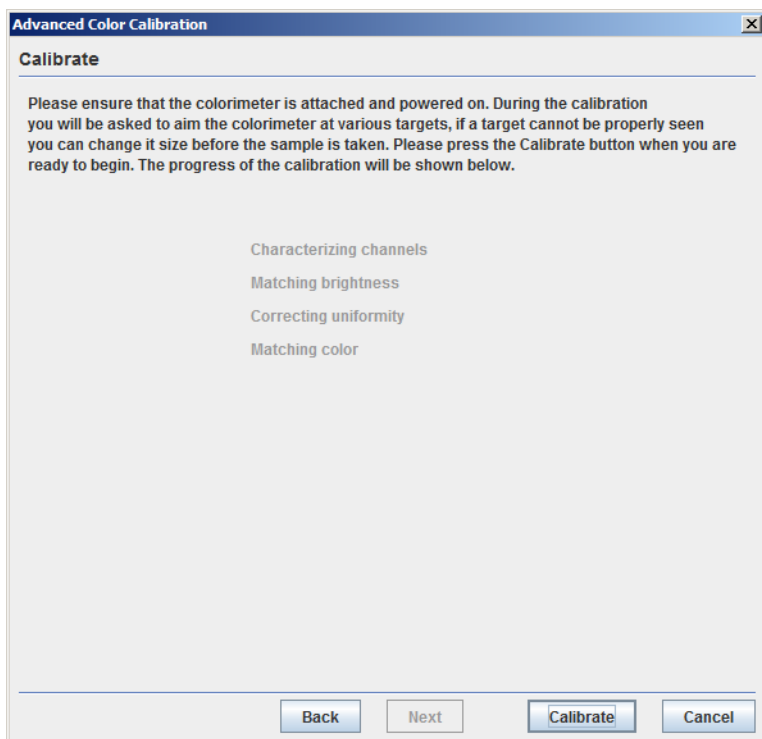

Figure 4-35 Advanced Color Calibration - Calibrate
- 8. From the **User Color Entry** drop-down list, select the user-defined color space where you want to save the common color space found by the calibration process. If you want to override the default maximum drive settings for the projector(s), select **Overwrite max drives**. Click **Next**. The Calibrate window appears (Figure 4-35).